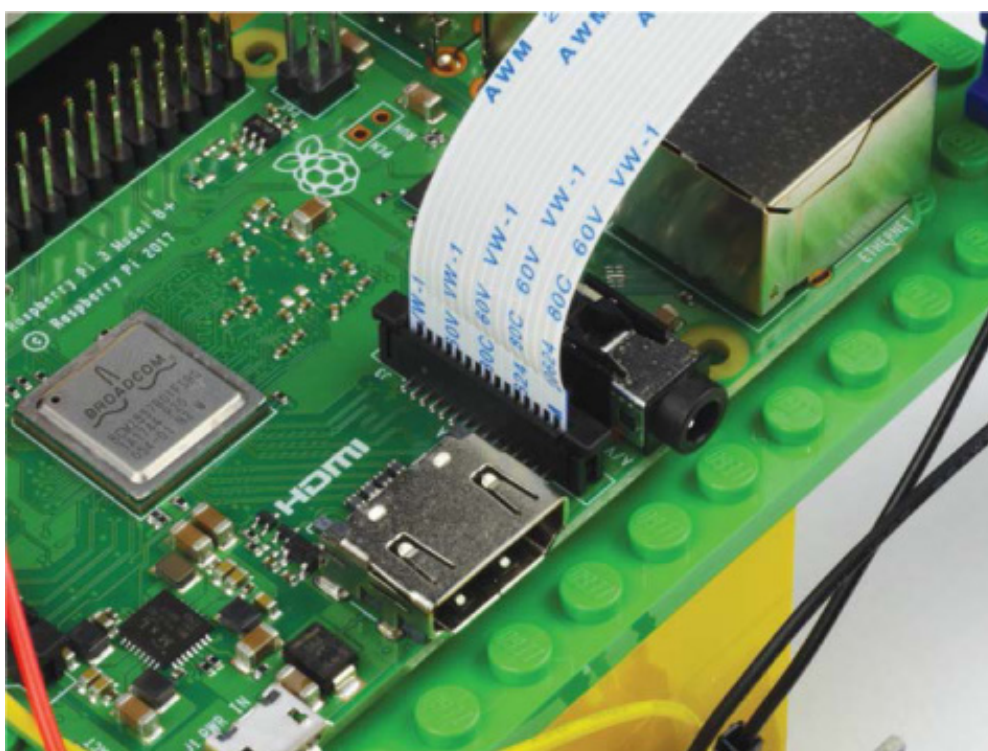

FIGURE 8-6 My correctly connected Camera Module ribbon cable
4. Then, while holding the ribbon cable in place, place a finger on both sides of the CSI port and push it back down at the same time. If both sides don't close simultaneously, then one side will not close properly and the cable may come loose. Figure 8-6 shows a properly attached ribbon cable. Notice that a fraction of the silver contacts are just visible, and they're all parallel with the board.